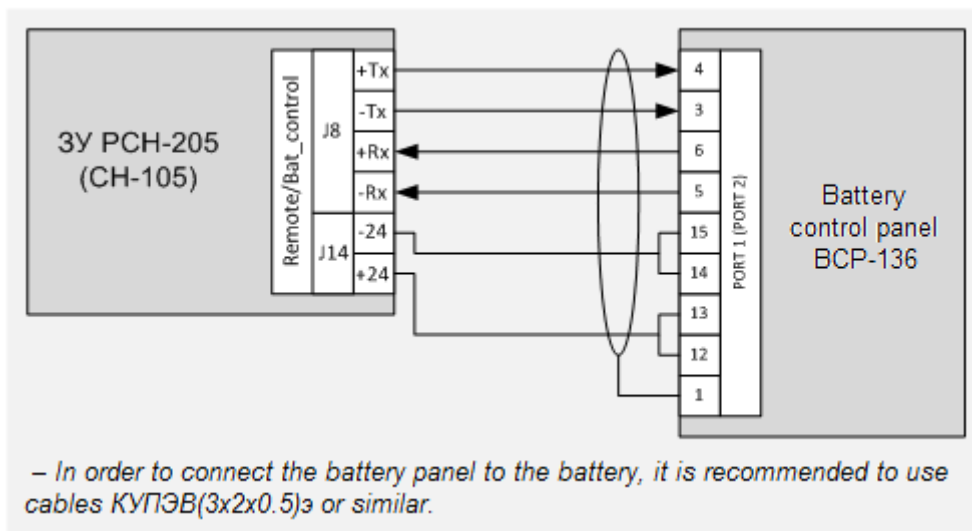

Fig. 5 Example of PCH-205 (CH-105) connection to the digital interface
- digital interface (ref. Fig. 5) – CH-105, PCH-205 or BMU-126. Via the digital interface, the battery panel connected to these devices receives information on actual settings, abnormal conditions, charging current and voltage, and displays it by means the indicator. By means of the panel, it is possible to adjust settings of CH-105 and PCH-205 (ref. section 8),
- digital interface connection diagram is shown in Fig. 5, Fig. 7;